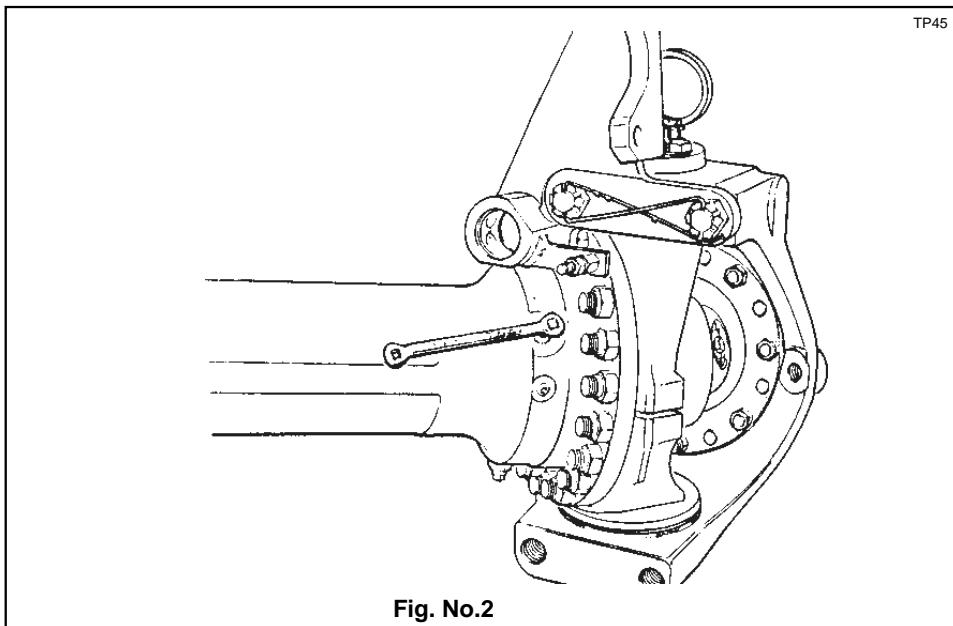

Fig. No.2
- 2.8 Unscrew and remove U.J. oil seal housing lockscREWS (114\*) as shown in fig. no.2.